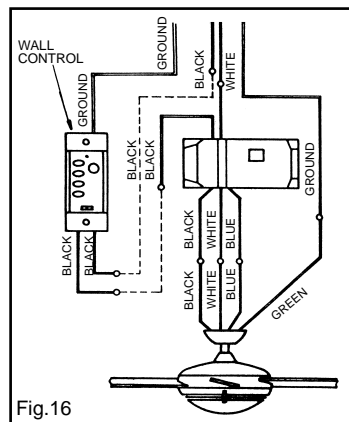

Fig.16
**Step 2.**Make the electrical connections as shown in (Fig. 16). If your outlet box has a ground wire (green or bare copper) connect the wall transmitter's ground wire to it; otherwise connect the wall transmitter's ground wire directly to one of the screws from the outlet box.